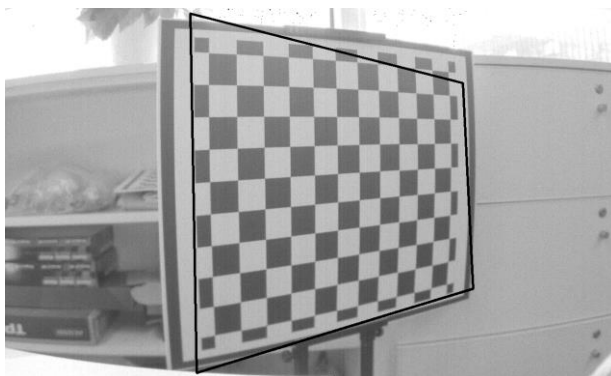
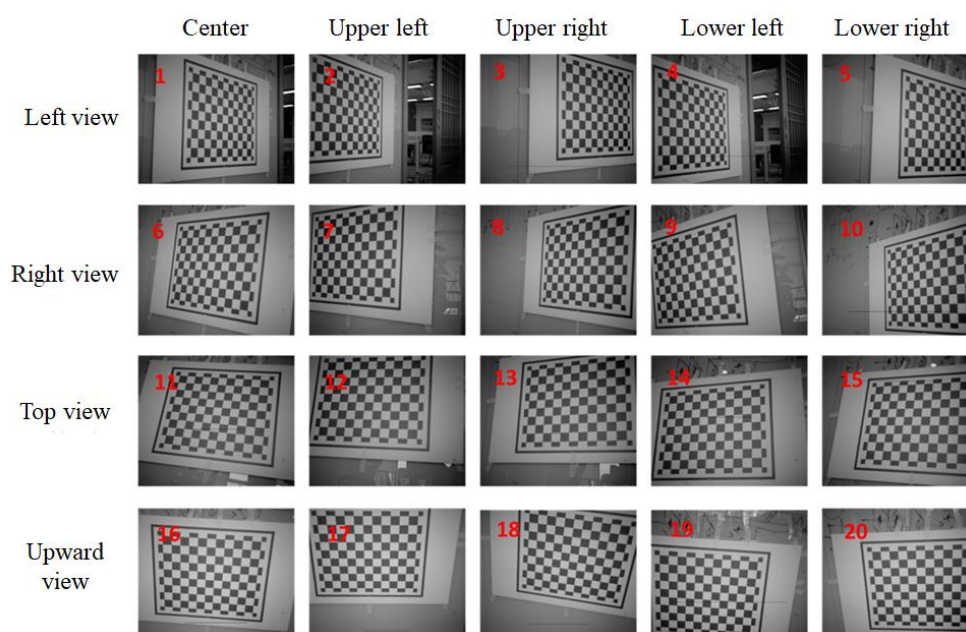
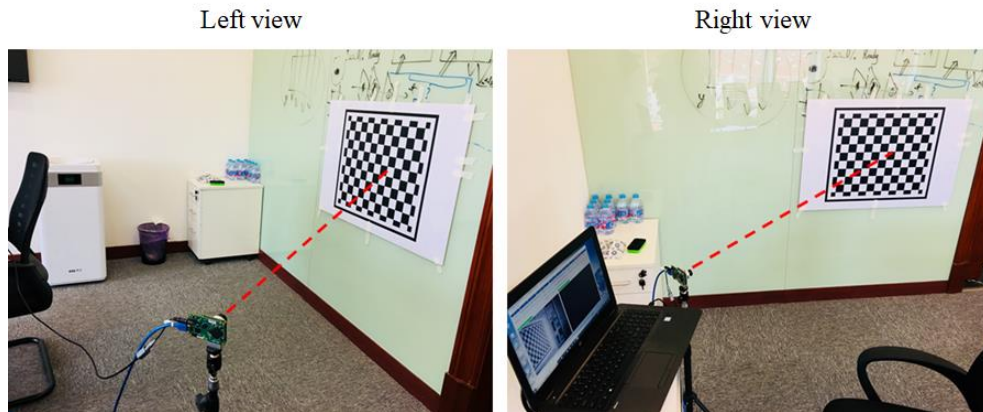

Fig 2-2-1
Fig 2-2-2 Totally 20 pictures are needed.
Fig 2-2-3
- 4) Press “l” or “d” to lighten or darken an image to the brightness as shown in Fig 2-2-1. Press arrow keys to flip image, the left and right arrow keys can horizontally flip the image and the up and down arrow keys can vertically flip the image. Then adjust the focus.
- 5) Adjust position and orientation, the outline of the chessboard is inside the black frame (little deviation is acceptable, but all squares must appear in an image as shown in Fig 2-2-1). The black frames in the image can assist adjusting. Totally 20 pictures are needed, in which the directions and positions of the chessboard are different as shown in Fig 2-2-2. The number in left-top of an image indicates the appearance order. The sensor and chessboard of left view and right view are shown in Fig 2-2-3.